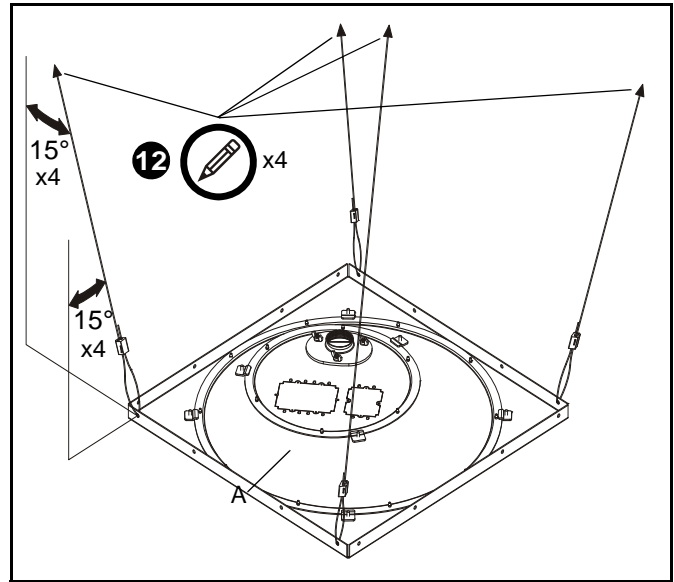

Figure 5
12. Examine ceiling structure (concrete, steel truss, or wood) above tray (A) to identify four support cable anchor locations. Each location should be approximately 15° *outboard* of support holes in tray (A) (See Figure 5). Mark locations with pencil.